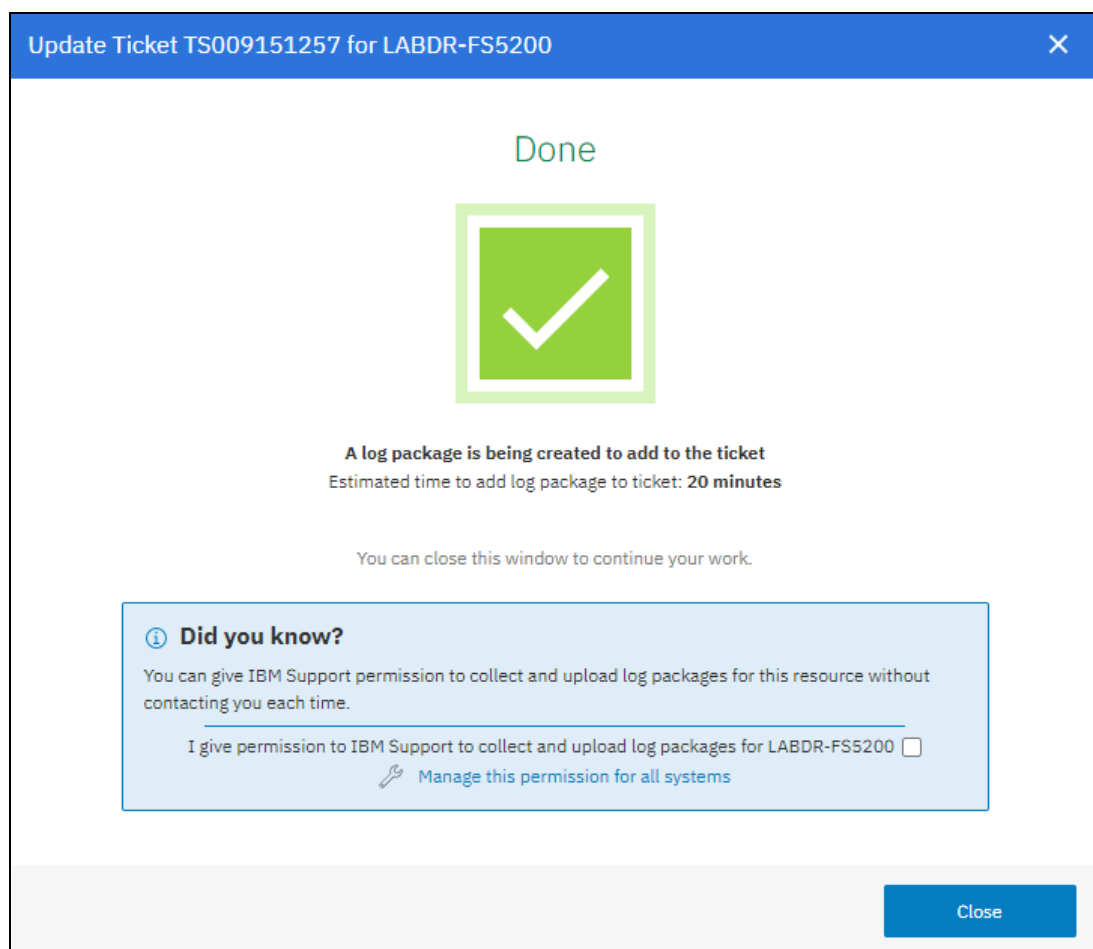

Figure 11-27 Update of the support ticket is complete
5. By clicking **Next**, the update of the support ticket is completed, as shown in Figure 11-27.